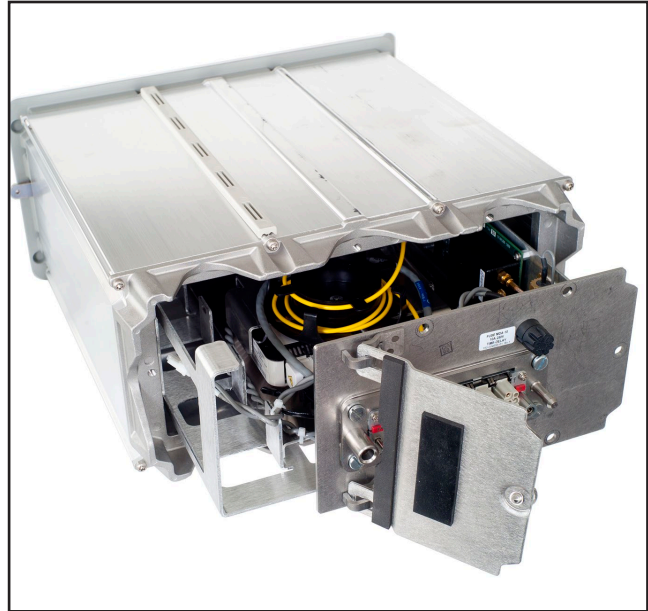

Figure 15. Reinstalling the radio tray assembly.
- Insert the radio tray into the communication module. See Figure 15.